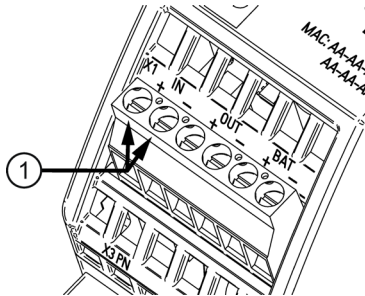

Figure 6-2 Input side connection
The 24 V power supply is connected at the "IN+", and "IN-" ① terminals (see Figure 6-2 Input side connection (Page 108)).